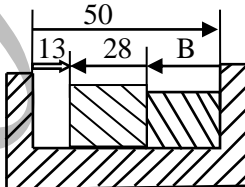

Figure 14
42. Calculate the dimension B of the chain of dimension in figure 14 below.